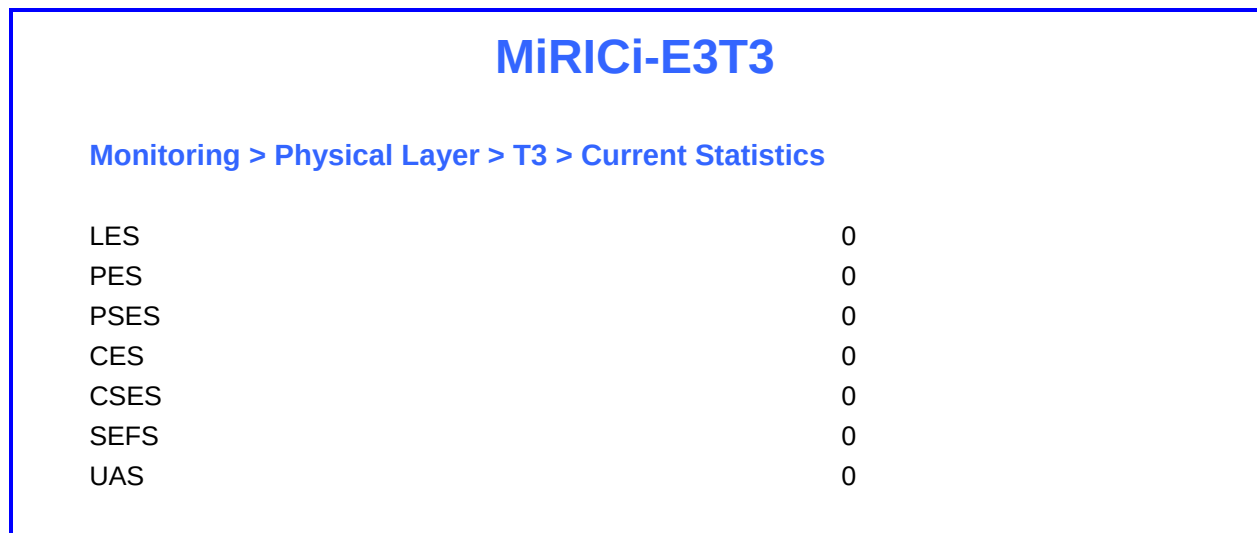

Figure 6-2. T3 Current Statistics
- **Current** – the statistics collected during the last second (*Figure 6-2*).